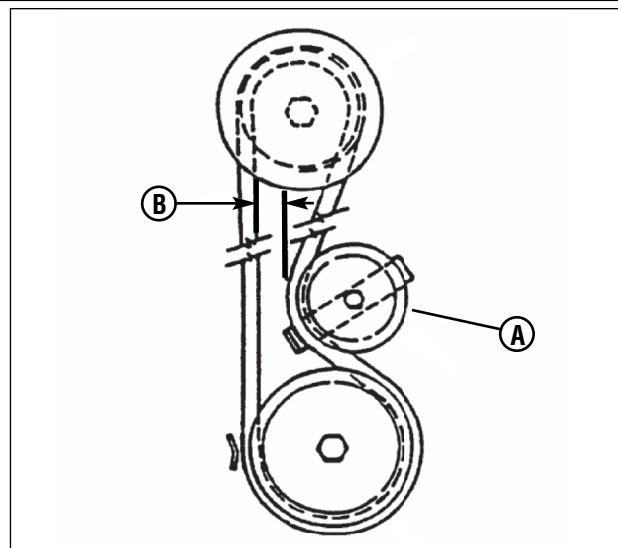

Figure 22: Measuring the belt spacing
5. 28" and 30" Decks *: Measure the belt spacing at the idler pulley (A, Figure 22). The belt spacing (B) should be 1-1/4" but no less than 1". If the measurement is less than 1", the belt tension should be adjusted. Refer to the section entitled "BLADE DRIVE BELT ADJUSTMENT".